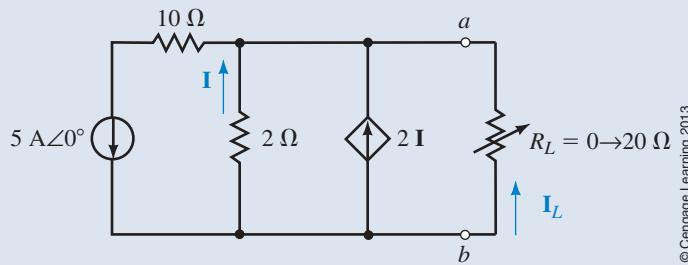

FIGURE 20-45
- Find the Thévenin equivalent circuit external to R_L in the circuit of Figure 20-45.